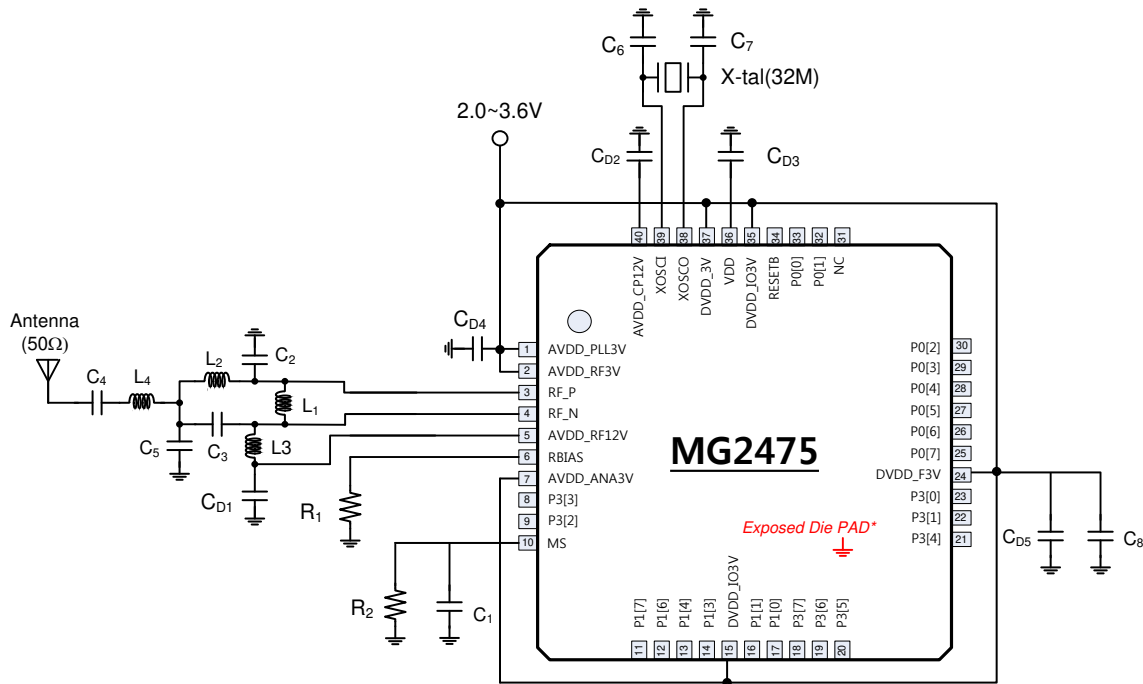

Figure 3. MG2475 Typical Application Circuit
A typical application diagram of the MG2475 is shown in [Figure 3]. Only a few external components are required for the operation of the MG2475. [Table 3] describes the external components including decoupling capacitors.
The inductor,  $L_1$  is used as a matching component for the LNA and as an output load for the PA. The components near the RF\_P/RF\_N pins,  $L_2$ ,  $L_3$ ,  $C_2$ , and  $C_3$  form a balun which converts the differential RF signals to a single-ended RF signal. And,  $L_4$ ,  $C_4$ , and  $C_5$  form a LC harmonic filter to suppress the TX output harmonics. In addition,  $C_4$  is needed for DC blocking. All together with adequate values, they also transform the impedance to match a 50-Ohm antenna. As shown in [Figure 3], to provide supply current for TX output stage, RF\_P and RF\_N should be biased by AVDDRF\_12V through  $L_1$  and  $L_3$ .
**Table 3. Bill of Materials for Figure 3**